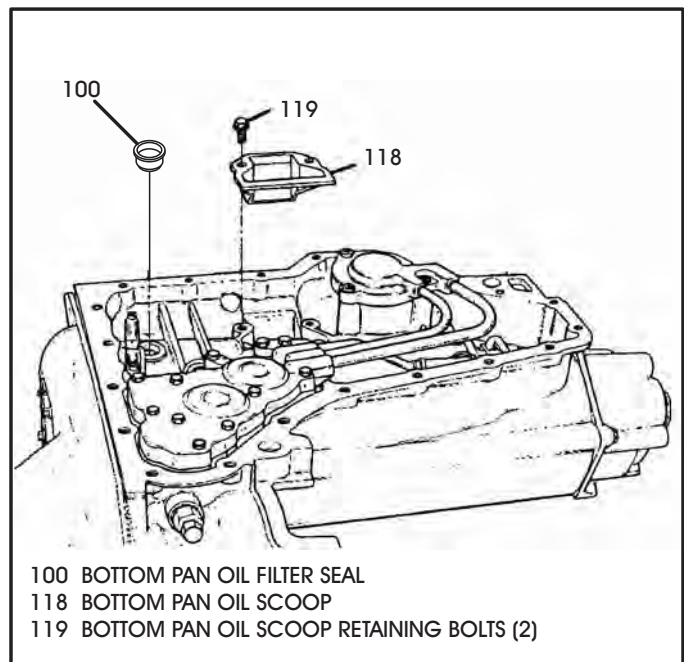

Figure 218
11. Install bottom pan oil scoop into the transaxle case as, shown in Figure 218.
13. Install new filter seal into the transaxle case, as shown in Figure 218.